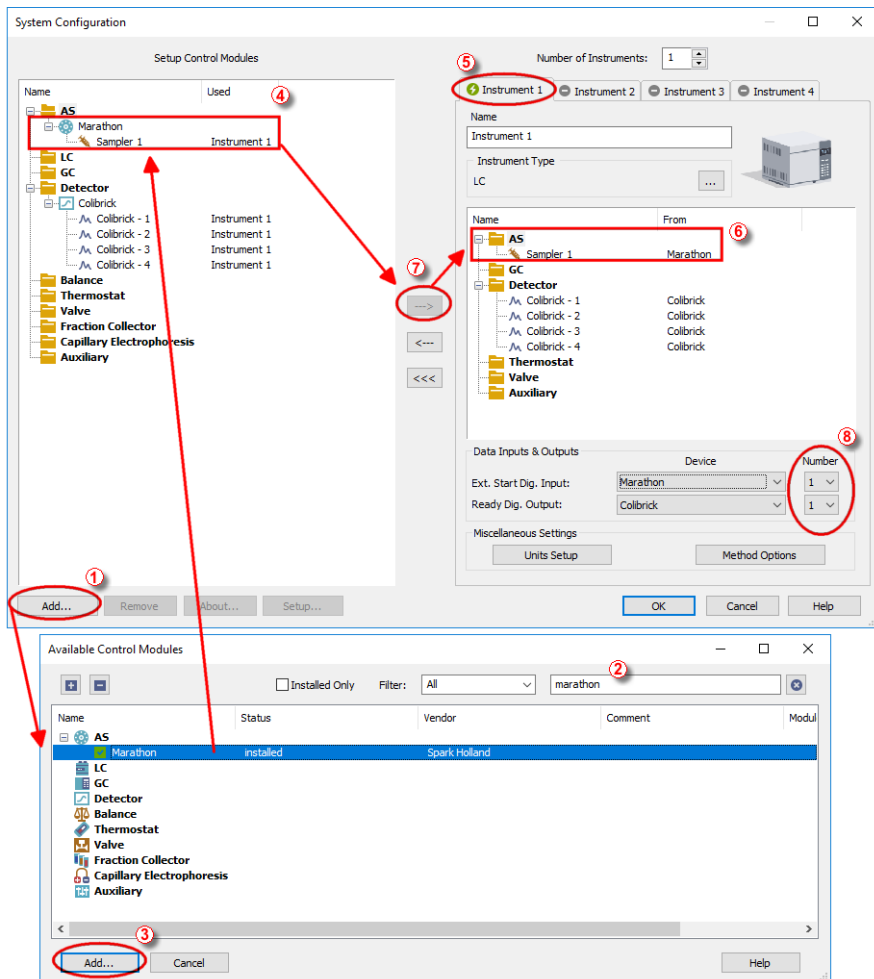

Fig 4: System Configuration
- Press the **Add** button (1) (see **Fig 4** on pg 5.) to invoke the **Available Control Modules** dialog.
- You can specify the searching filter ② to simplify the finding of the driver.
- Select the **Marathon** sampler and press the *Add* ③ button.